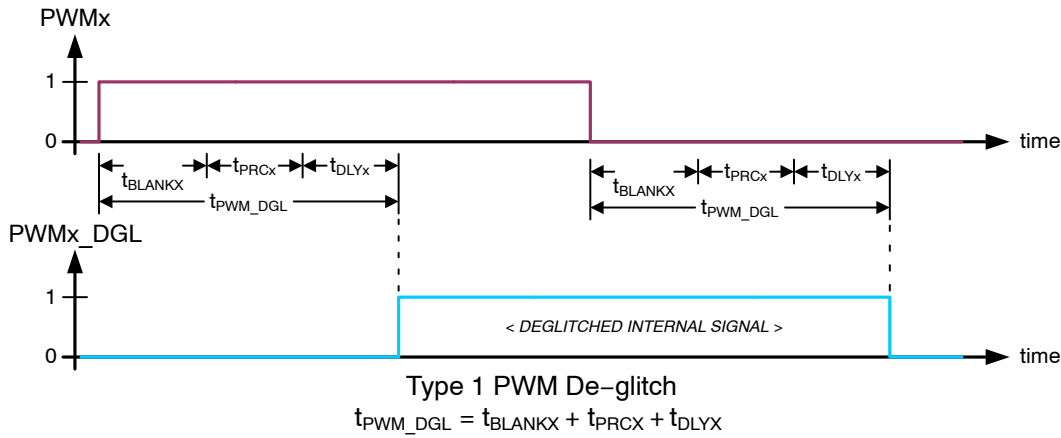
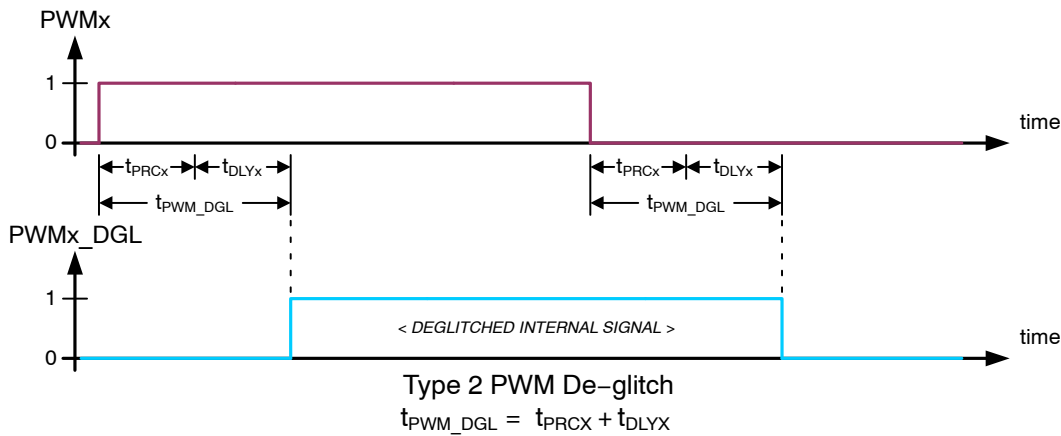

Figure 10. Type 1 PWMx Input De-glitch - CR14.DGLx = 0
Figure 11. Type 2 PWMx Input De-glitch - CR14.DGLx = 1
When multiple PWMx inputs are needed to be active, the scheduled PWM signals should be offset in time to avoid degradation of the VDS overload detection due to crosstalk (see § *Overload Protection*). The minimum offset should be based on the t_{PWM_DGL} times appropriate for the respective channels (see § *Switching Behavior of Half-bridge Drivers*, Figure 10 and Figure 11).
- adaptive PWM input de-glitch construction when in half-bridge configuration is selected by DGLx[6:0] bits (see Figure 10, Figure 11, Table 21 and Table 22).
When operating HB1...HB7 in PWM mode and in half-bridge configuration, type 1 de-glitch is selected when CR14.DGLx = 0 (see Figure 10) and the adapted time is given by:
Type 2 de-glitch is selected when CR14.DGLx = 1 (see Figure 11) and the adapted time is given by:
- the PWMx_DGL resulting from the channel's operating configuration (see § *Switching Behavior of Half-bridge Drivers*, Figure 10 and Figure 11);